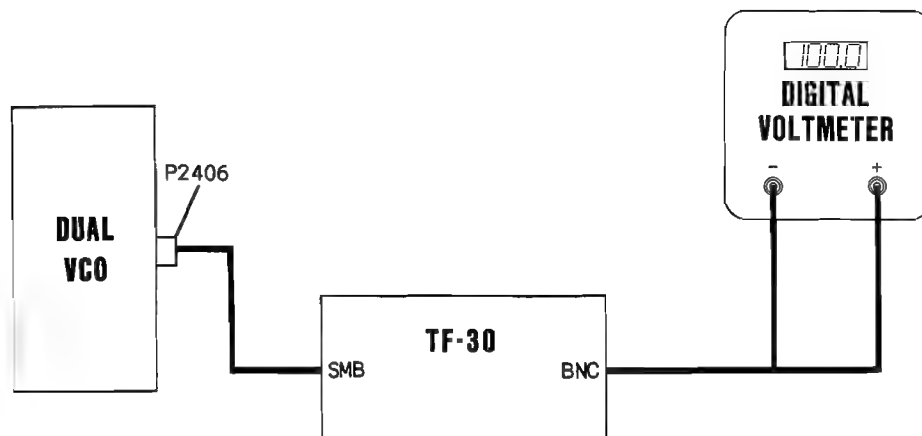

Figure 4-1 TF-30 Tune Fixture Hook-Up
14.	Use Keyboard (20 to select 299.0000 MHz on LCD (21) FREQUENCY Readout.
16.	Connect TF-30 to P2406 on Dual VCO and DVM to BNC connector on TF-30 as illustrated in Figure 4-1.